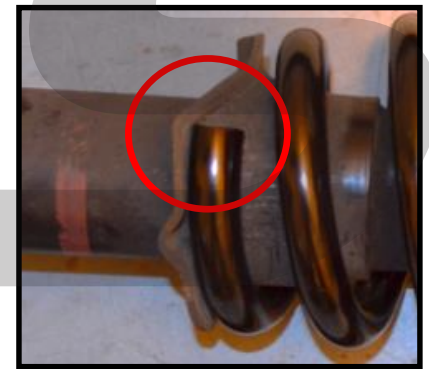

Figure 3b
- Rotate the spring counter clockwise on the strut so the end of the spring seats properly into its perch. Shown circled in Figure 3b.